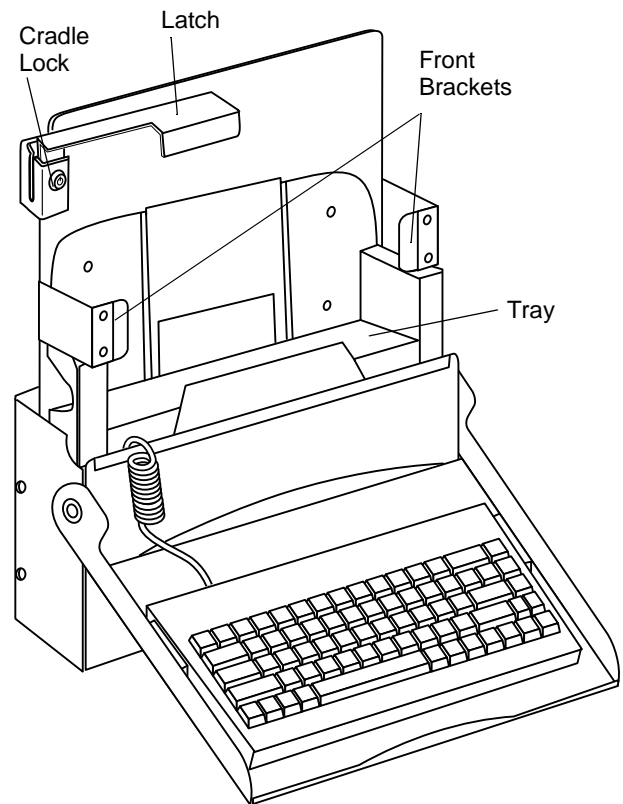

Figure 7. Assembled Wall Mount
- Using a 3/32 Allen wrench, install the six short screws from the hardware kit. The assembled wall mount is illustrated in Fig. 7.
1. Insert the key into the cradle lock (reference Figure 7). While pushing it firmly, turn the key counter- clockwise to raise the latch to a 90° angle.